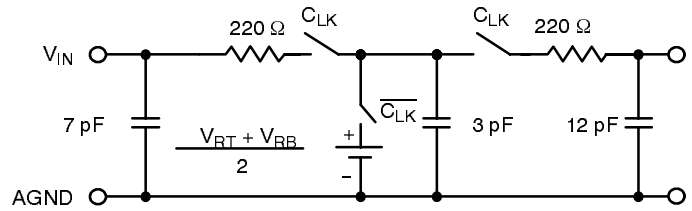

Figure 3. Input Equivalent Circuit
- 4 See V_{IN} input equivalent circuit (Figure 3). Switched capacitor analog input requires driver with low output resistance.
The ideal ADC is a linear building block that has infinite bandwidth and no phase distortion. A real ADC, however, exhibits finite bandwidth and non-constant group delay characteristics as well as non-linear behavior due to the non-zero INL characteristic. When modeling the ADC as a linear element and a quantizer, the circuit shown in Figure 3. can be used in order to represent the ADC's bandwidth.
1. Driving the analog input – The input impedance can be represented as a switched capacitor type input circuit, i.e. the input impedance changes with the phase of the input clock. Figure 3. shows an equivalent input circuit. In many applications, the input impedance can be treated as capacitive. For fast signals and a high driving impedance, a wide bandwidth op amp is recommended.